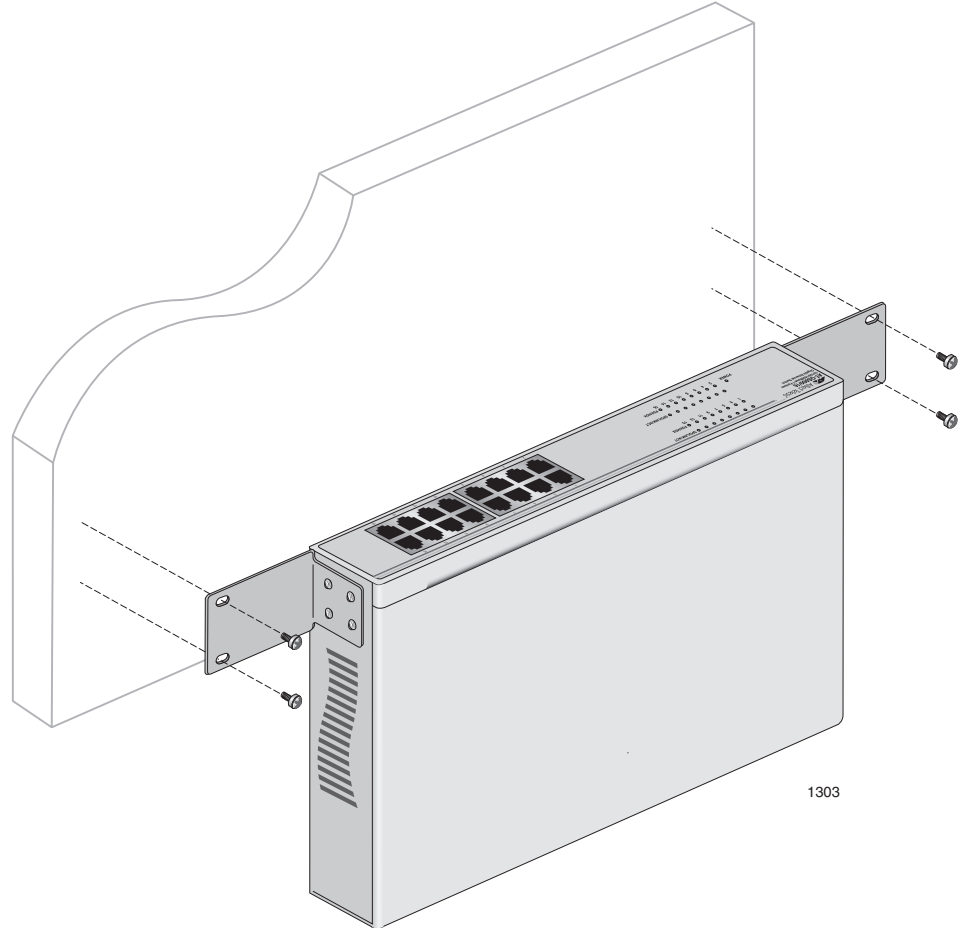

Figure 8. Attaching the switch to the wall
3. Place the switch on the wall. Then mount the switch using the #10-32 Phillips screws which are shipped with the product. See Figure 8.